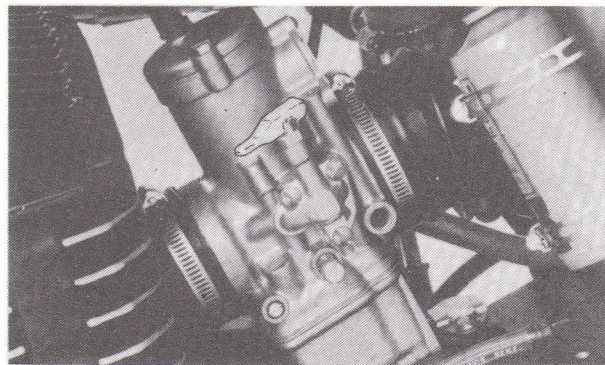

Fig. 4 - Fuel mixture enrichment lever - OFF (closed)
- When the engine is warm, do not use the fuel mixture enrichment lever (fig. 4). Open the throttle 1/4 of a turn and operate the kick starter lever.